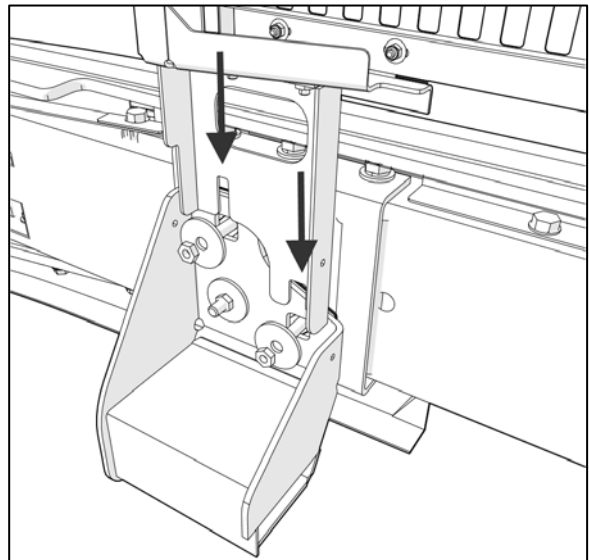

FIGURE 8
8. Slide down both brackets behind the bumper nuts and flat washers (Figure 8).